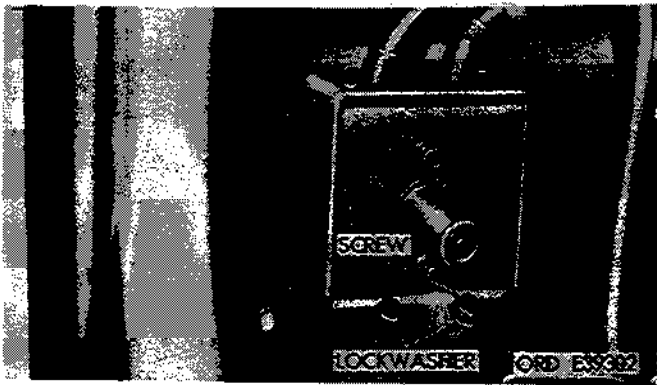

Figure 2-243. Disconnect starter switch from floor panel.
(29) Loosen two screws in back of starter switch and remove two front screws switch to floor panel (see fig. 2-243).